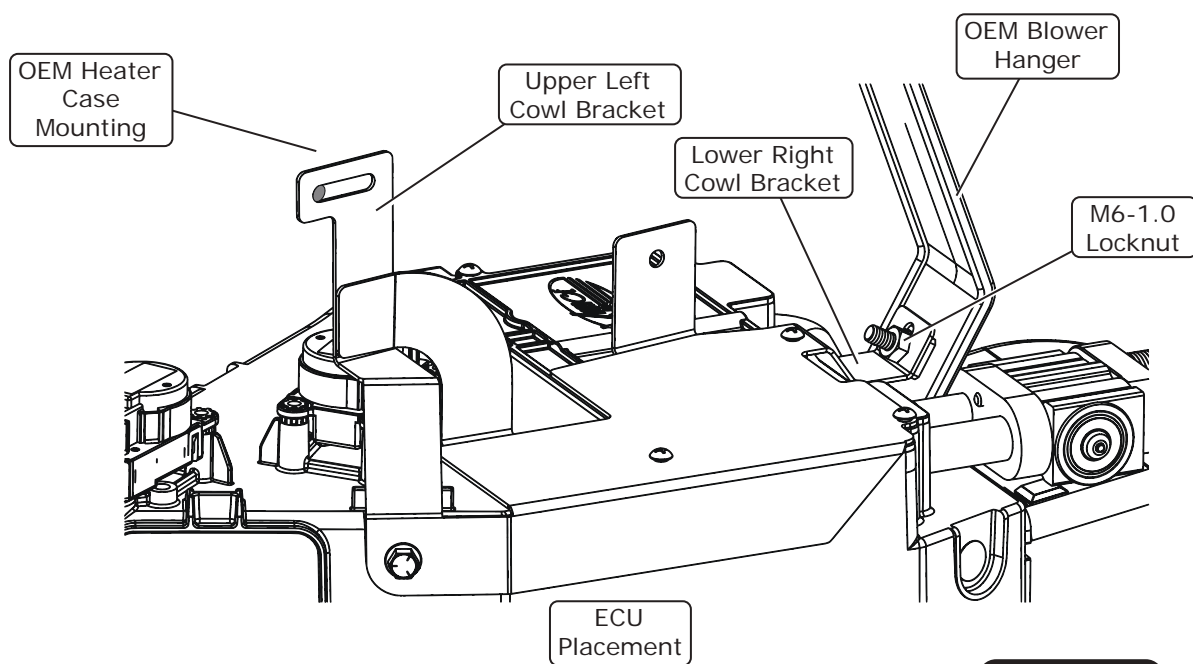

Figure 12
11. Once the firewall bracket is aligned to the (2) previously drilled 1/4" holes and the full-threaded studs are protruding through the firewall into the engine compartment. Verify the lower right cowl bracket is resting on the OEM blower hanger with the reused bolt in the slotted features (See Figure 12, below). With the supplied M6-1.0 locknut, secure the bracket to the hanger.
12. Align upper left cowl bracket to the vehicle's OEM heater case cowl mount (See Figure 12, below). With the supplied T30 M6 x 1" truss head bolt, secure the bracket to the mount.